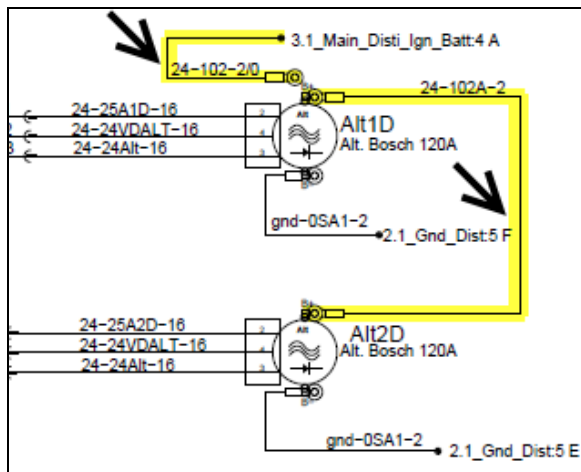

Figure 1
- On the **alternators positive (+) stud terminal** and from there, up to junction block in the electrical compartment (Figure 1, Figure 2, Figure 3).